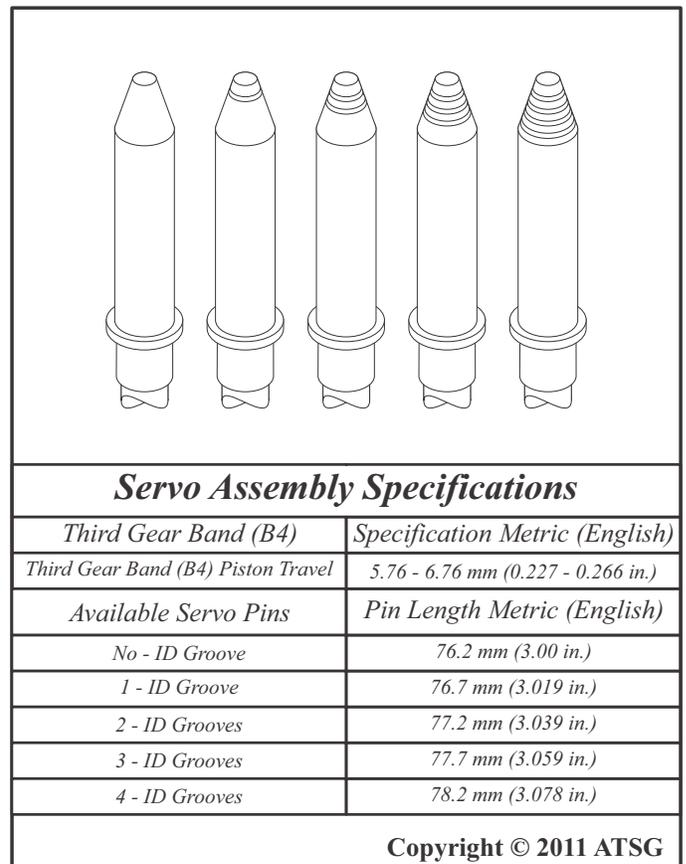

Figure 148
6. During final assembly it will be necessary to check the servo piston travel. Servo piston travel specification is provided in the Servo Assembly Specifications chart shown in Figure 148. If servo piston travel is not within specification, select a different servo pin from the chart in Figure 148.